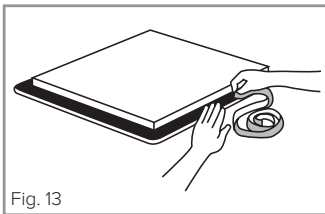

Fig. 13
2. Position the hob seal, as shown in the diagram below (Fig. 13), ensuring that the ends meet without overlapping. Do not use silicone type sealant.